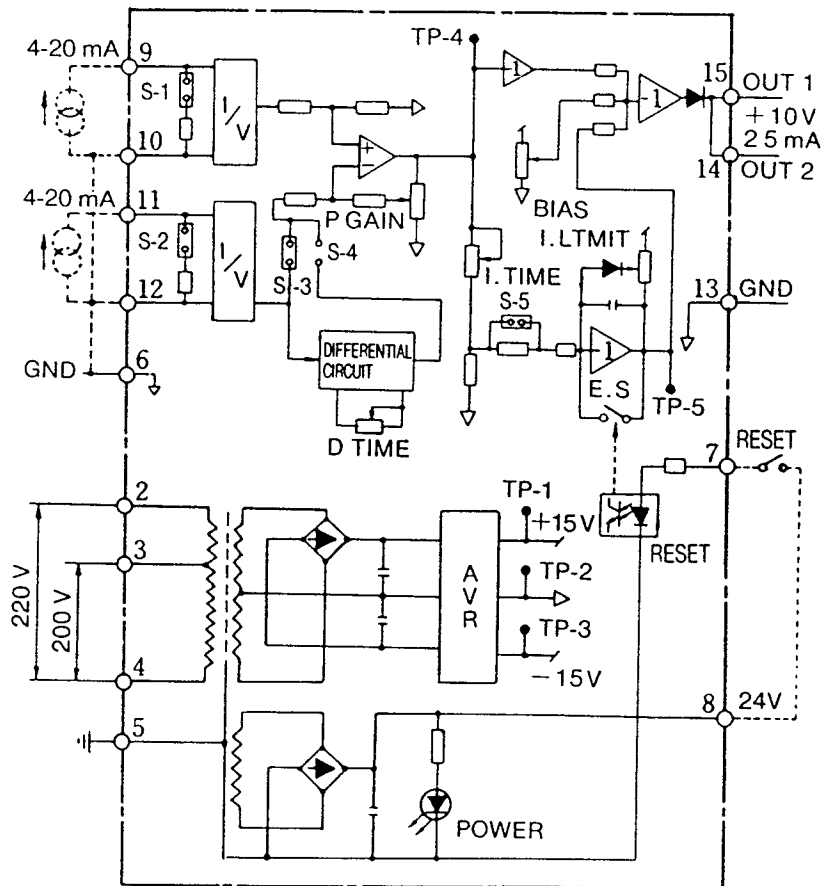

Figure 7. PID Controller Schematic
7. Description of PID Controller Operation (Ref. Figure 7)